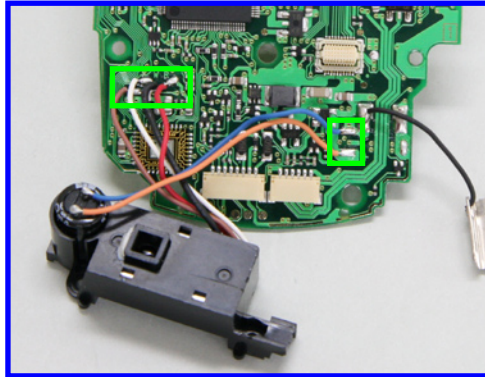

Fig. 019 Lead Wires
3. PCB Ass'y (I) removal
- Remove the lead wires from the PCB Ass'y (A). (Soldered in 6 places) (Fig. 019)